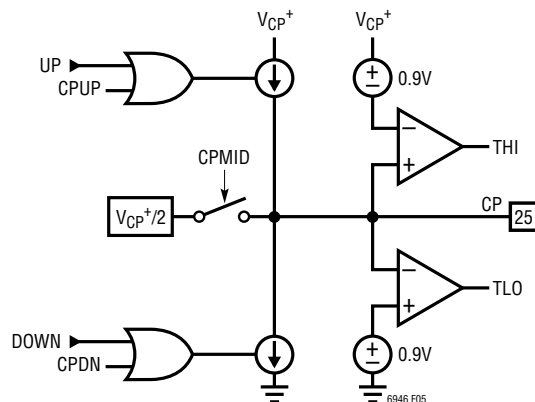

Figure 5. Simplified Charge Pump Schematic
The charge pump, controlled by the PFD, forces sink (DOWN) or source (UP) current pulses onto the CP pin, which should be connected to an appropriate loop filter. See Figure 5 for a simplified schematic of the charge pump.
The CPCHI and CPCLO bits found in register h0A enable the high and low voltage clamps, respectively. When CPCHI is enabled and the CP pin voltage exceeds approximately $V_{CP^+} - 0.9\text{V}$, the THI status flag is set, and the charge pump sourcing current is disabled. Alternately, when CPCLO is enabled and the CP pin voltage is less than approximately 0.9V , the TLO status flag is set, and the charge pump sinking current is disabled. See Figure 5 for a simplified schematic.